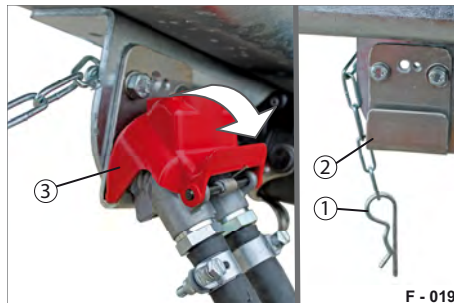

Fig. 19 Duo-Matic on park console
- Pull the spring pin (Fig. 19/1) out of the park console (Fig. 19/2).
- Press off the end cap (Fig. 19/3) and remove the Duo-Matic coupling from the park console.